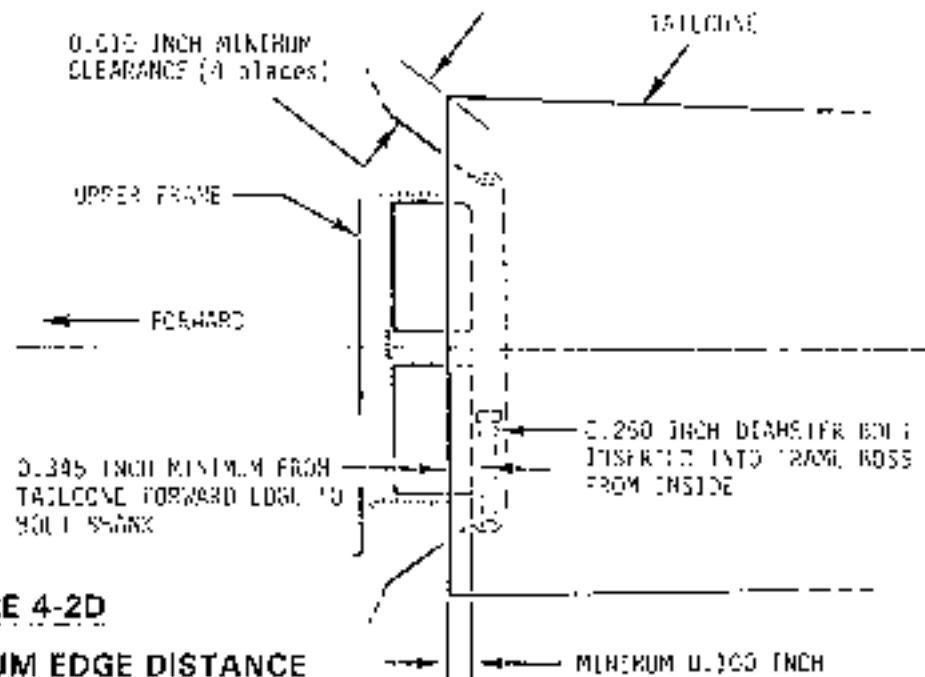

FIGURE 4-2D
- f. Check for clearance between tailcone and upper frame assembly. Refer to Figure 4-2D.
7. Refer to Figure 4-2D. Place a straight edge across the forward face of tailcone and measure gap between straight edge and forward face of the steel tube mounting structure. Measurements should be taken as close as possible to the four tailcone mounting points. Adjust tailcone as necessary to obtain a minimum dimension of 0.10 inch. Recheck and adjust vertical and lateral centering of tailcone as required.
1. Refer to Figure 4-2D. Prior to drilling, verify minimum 0.345 inch edge distance from tailcone edge to hole edge.